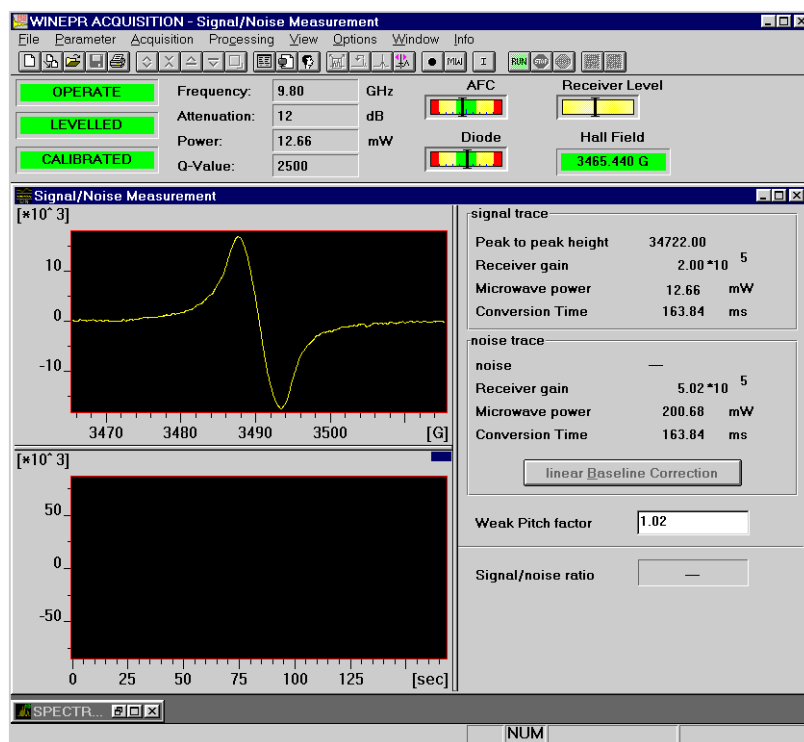

Figure 9-7 Signal measurement.
5. **Acquire a signal spectrum.** Click the RUN button in the tool bar to acquire a weak pitch spectrum. (See Figure 9-7.) If the spectrum is off center you can use the center field tool to set the correct field center. If there is a large offset you can open the Interactive Spectrometer Control dialog box to adjust the offset to the proper position where the indicator of the Receiver Level is in the middle. Do not forget to click the Set Parameters to the Spectrum button and move the pointer to the signal measurement window and click the left mouse button again.